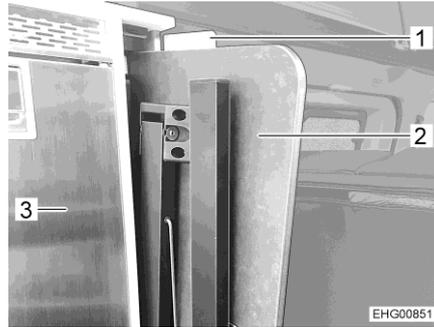

Fig. 15 Table (secured in storage compartment) (C 530)
The storage compartment is located behind a cabinet flap (Fig. 15,1) next to the refrigerator (Fig. 15,3).
- Open the cabinet flap (Fig. 15,1).
- Slide the folded table (Fig. 15,2) into the storage compartment.